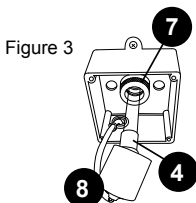
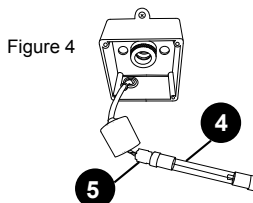
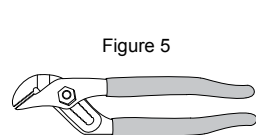
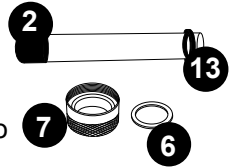

Figure 3
Figure 4
Figure 5
Figure 6
3. Remove the black lamp boot (8) by sliding it over the cable away from the quartz seal compression nut (7), Figure 3.
4. Slowly remove the UV lamp (4) out of the quartz tube.
5. Remove lamp socket (5) from the UV lamp (4), Figure 4.
6. Remove the quartz seal compression nut (7) by turning it **counterclockwise**, Figure 3. Use a pair of channel-lock pliers if needed, Figure 5. You will notice that there is a stainless steel compression washer (6) that slides over the quartz tube. Save the washer (6) for later use, Figure 6. There is also a black seal ring (13), grasp the black seal ring, slowly and carefully remove the quartz tube.
17. Slide the new UV lamp (4) back inside the quartz tube, Figure 3.
18. Reinstall the black lamp boot (8) back over the quartz seal compression nut (7).
19. Reinstall the enclosure cover (10) with gasket (9) and secure with the screws.